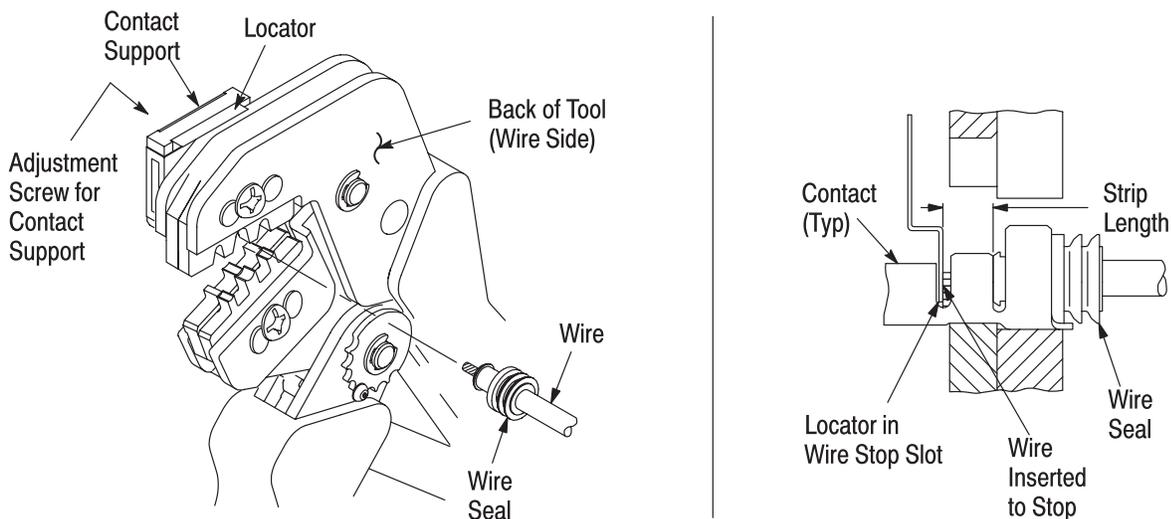

Figure 3
4. CONTACT SUPPORT ADJUSTMENT (Figure 3)
Refer to the table in Figure 1 and select wire of the specified size and insulation diameter. Assemble applicable wire seal onto wire according to the instructions packaged with the contact. Strip the wire to the length indicated in Figure 1, taking care not to nick or cut wire strands. Select an applicable contact and identify the appropriate crimping chamber according to the wire size markings on the tool. Refer to Figure 3 and proceed as follows:
3. Position the contact so that the mating end of the contact is on the locator side of the tool, and so that the open “U” of the wire and insulation barrels face the top of the tool. Place the contact up into the nest so that the movable locator drops into the slot in the contact. Refer to Figure 3. Butt the front end of the wire barrel against the movable locator.
5. Insert stripped wire (with wire seal) into contact insulation and wire barrels until it is butted against the wire stop, as shown in Figure 3.
NOTE The crimped contact may stick in the crimping area, but the contact can be easily removed by pushing downward on the top of the locator (see Figure 3).